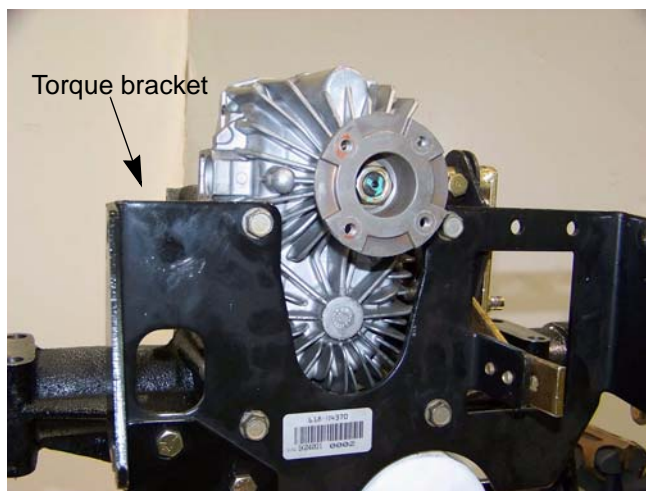

Figure 5.38
10. Remove the four screws securing the front torque bracket, spacers and the pump to the transmission using a 1/2" wrench. See Figure 5.38.